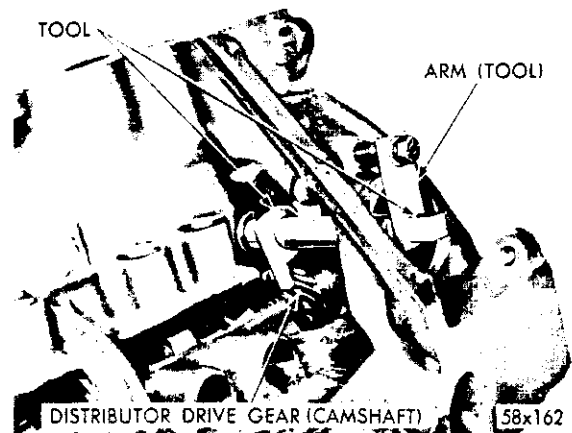

Fig. 37—Camshaft Holding Tool C-3509
(1) Lubricate the camshaft lobes and camshaft bearing journals and insert the camshaft to within 2 inches of its final position in the cylinder block.
(2) Modify Tool C-3509 by grinding off the index lug holding upper arm on the tool and rotate arm 180 degrees.
(3) Install Tool C-3509 in place of distributor drive gear and shaft, as shown in Figure 37.
(4) Hold the tool in position with the distributor lock plate screw. This tool will restrict the camshaft from being pushed in too far and prevent knocking out the welch plug in the rear of the cylinder block. The tool should remain installed until the camshaft and crankshaft sprockets and timing chain have been installed.